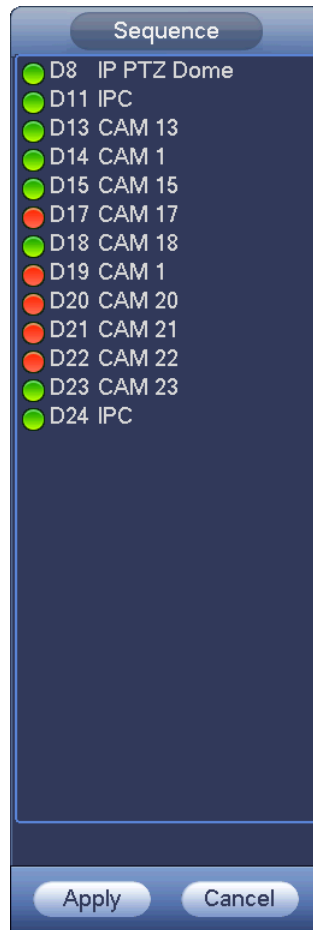

Figure 4-56
- Step 1 On the preview interface, right click mouse and then click Edit view. Enter edit view interface. See Figure 4-56.
- In case the channel amount has exceeded the device max split amount, the edit view interface can display the max screen number amount and current screen number. In Figure 4-56, click  or , switch the video from other channel.